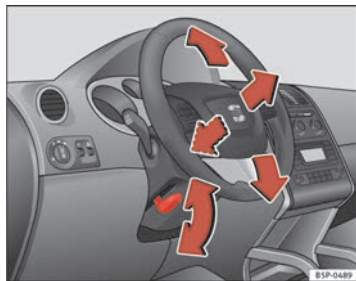

Fig. 135 Adjusting the steering wheel position
- Push the lever under the steering column \Rightarrow fig. 135 down \Rightarrow .